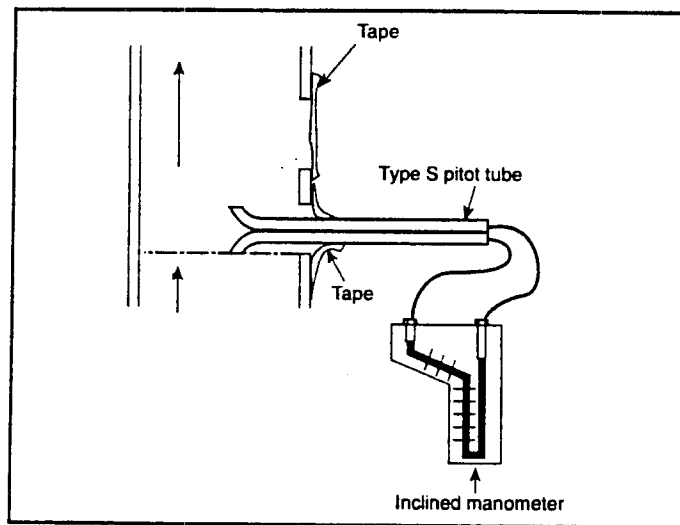

Figure A-5. Test arrangement for Type S pitot tube
- Step 7. Connect the pitot tube to the manometer as shown in Figure A-5, or to the manometer of the meter box as shown by your instructor.